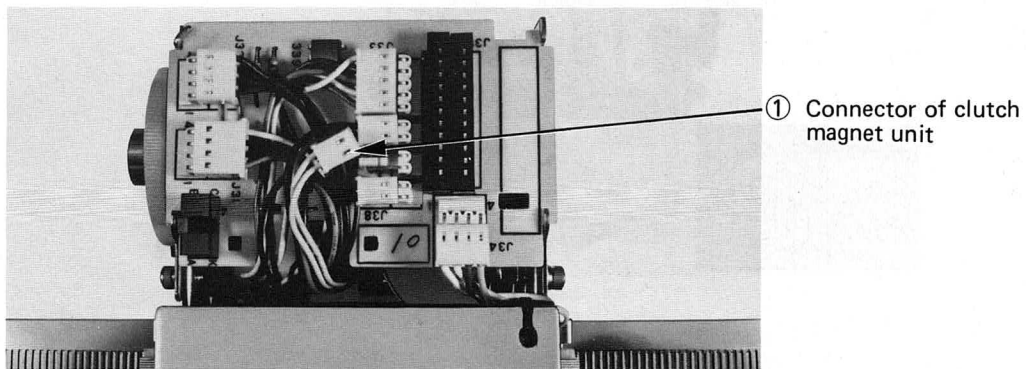

Fig. 5.19
- Step 2. Remove the cable holder from the carriage circuit board and disconnect connector ① at the clutch magnet unit. (Fig. 5.19)